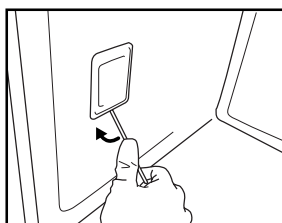

Fig. 5
3. Use a screwdriver to prise off the lamp cover (Fig. 5).